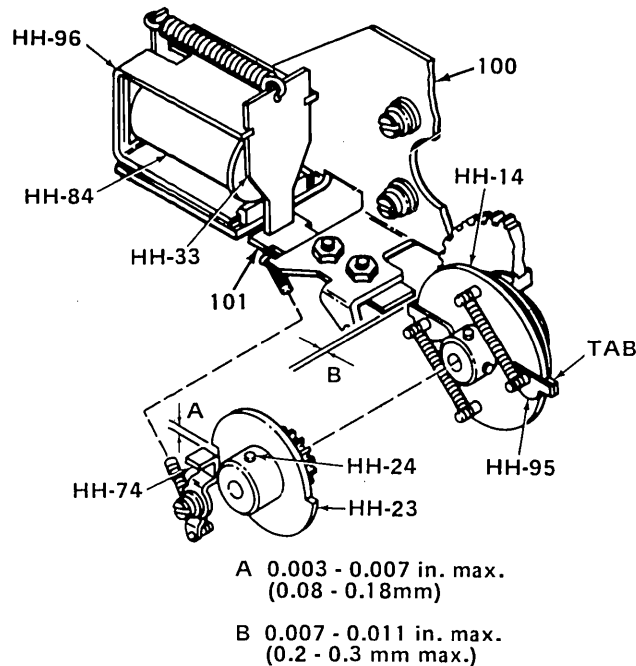

Figure 5-13. TWO ADJUSTMENTS, GEAR WITH STOP CAM (HH-23) AND INSIDE CAM (HH-14)
A. Gear With Stop Cam (HH-23) and Back Stopper (HH-74) (Refer to Figure 8-11 (HH) and Fig. 5-13).
It is at this point, when the shaft is released, that adjustment must be made to the gear with stop cam (HH-23) to prevent counter-movement of paper. (Refer to Figure 5-13).
**B. Clutch, Inner Cam (HH-14) - Clutch Slide Pawl (101)** (Refer to Figure 5-13 and 8-11)
1. To adjust proper distance of clutch slide pawl (101) to hold raised tab on paper feed clutch, inner cam (HH-14) prior to line feed release, perform the following steps: